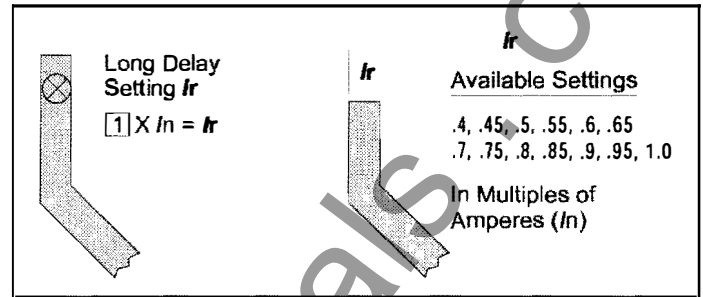

Figure 4.1 Long Delay Current Settings
The available settings, for the LSI(G) standard curve along with the effects of changing the settings, are described below and in Figures 4.1 through 4.8. Sample settings are represented in boxes (e.g. 2).
There are 13 available Long Delay Settings, as illustrated in Figure 4.1. Each setting, called ( $I_r$ ), is expressed as a multiple (ranging from .4 to 1) of the current ( $I_n$ ).